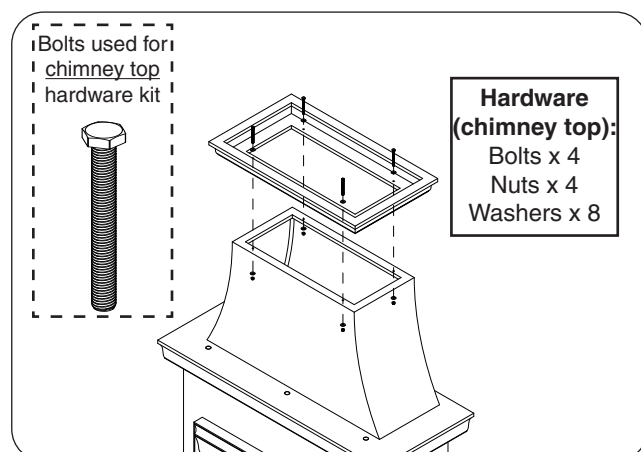

Fig. 24-2 Assemble chimney top (if applicable)
2. Place the chimney top piece (if applicable) on top of the chimney piece. Carefully align the pilot holes, and insert the hardware (chimney top hardware kits) in the order shown in Fig. 24-2. Hand tighten, then use two $\frac{1}{2}$ " open end wrenches (or equivalent) to fasten.